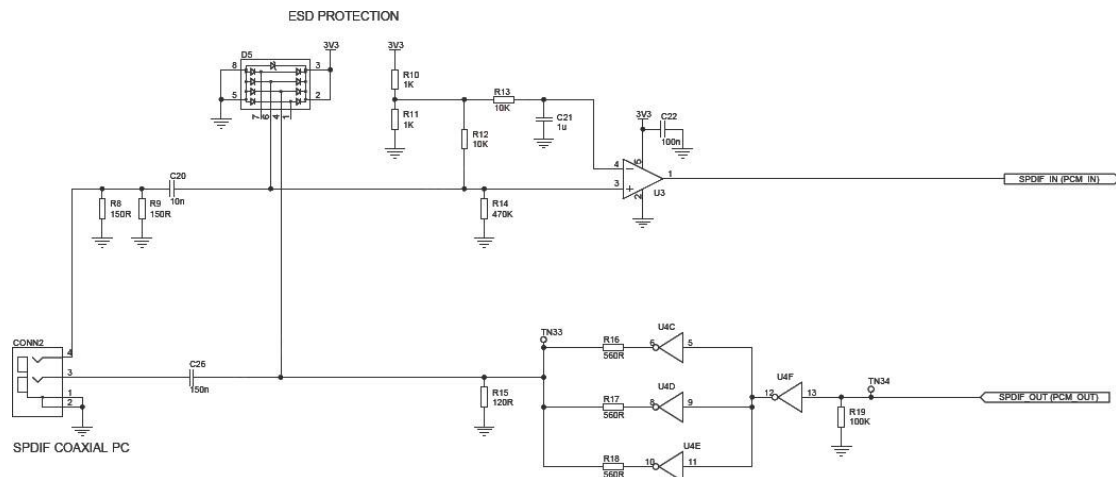

Figure 9.4: Example Circuit for SPDIF Interface (Co-axial)
- A 75Ω coaxial cable with an RCA connector, see Figure 9.4